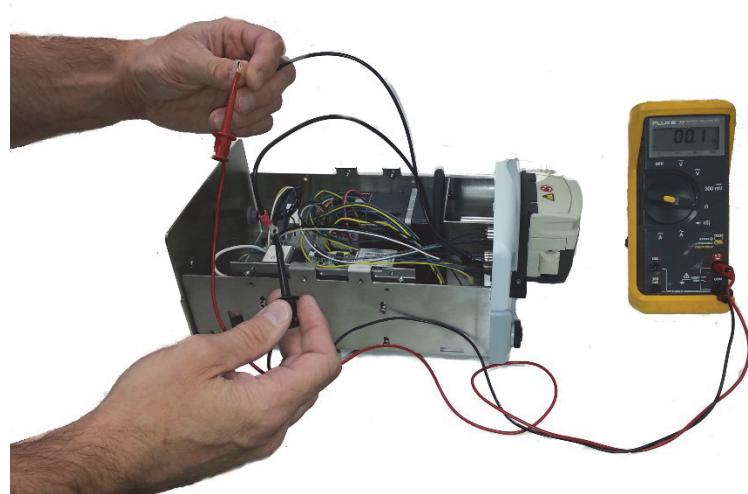

Figure 3
- c. Connect a DMM between the two wires. See figure 3.
- c. Connect a DMM between the two wires. See figure 3 in "*Troubleshooting, Unit will not power on*" Section.